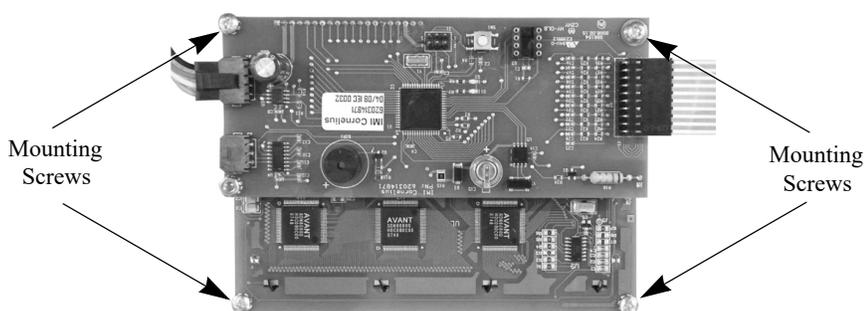

Figure 81. View of Display Board
The display board is located on the back of the control panel display. It is mounted to the panel with four (4) Phillips head screws, shown in Figure 81.